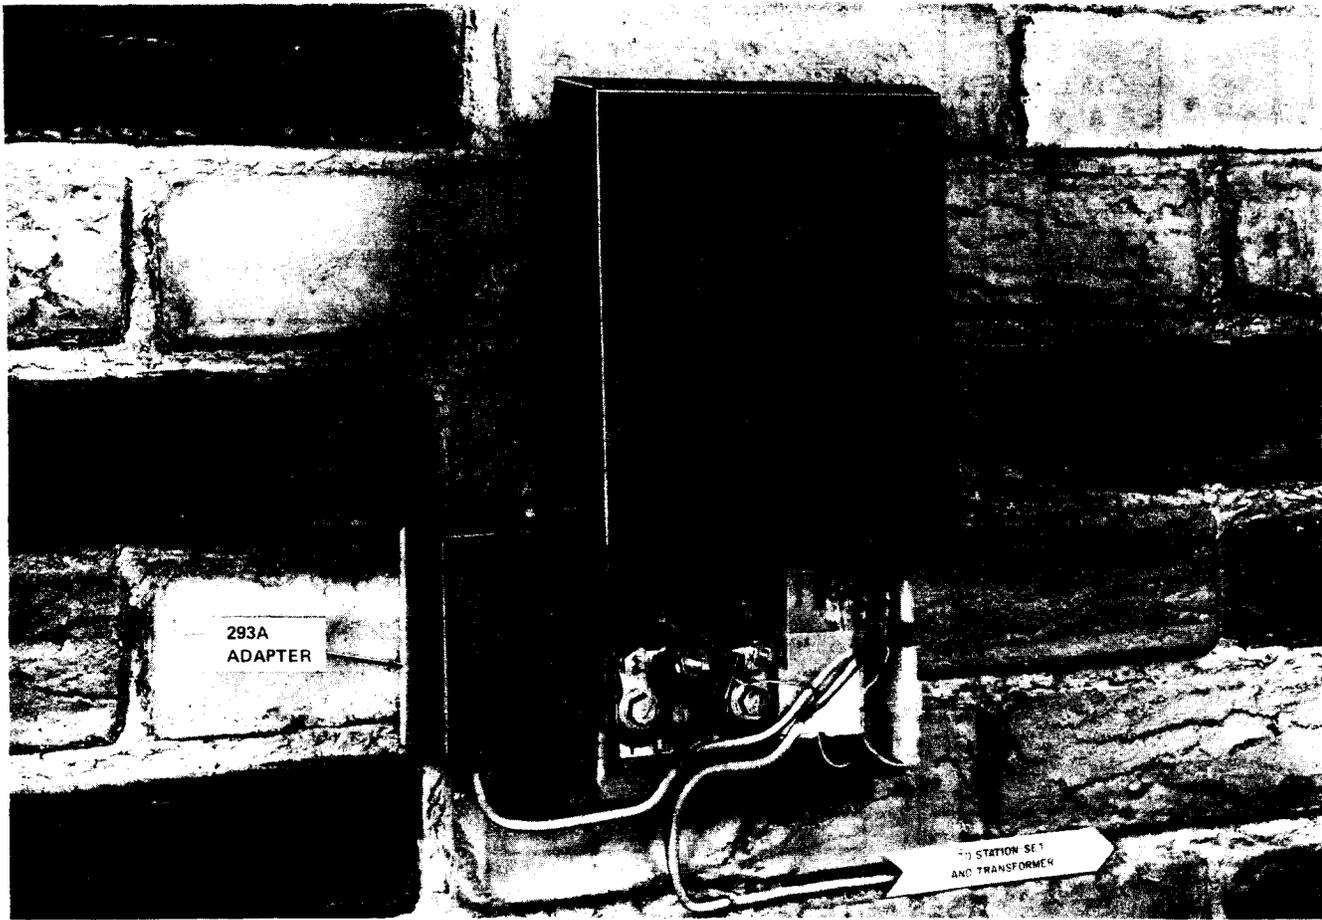

Fig. 3—NT12B SU With 293A Adapter
2.04 ♦A 293A adapter (Fig. 3), when used with a standard dial lamp transformer (2012C) plugged into 120-volt ac, provides additional charging current to the KS-20390L6 battery. Normally the equipment is charged by line voltage in the on-hook condition. The 293A adapter is intended for high usage customers such as small businesses, canvassers, or users of data terminals.♦